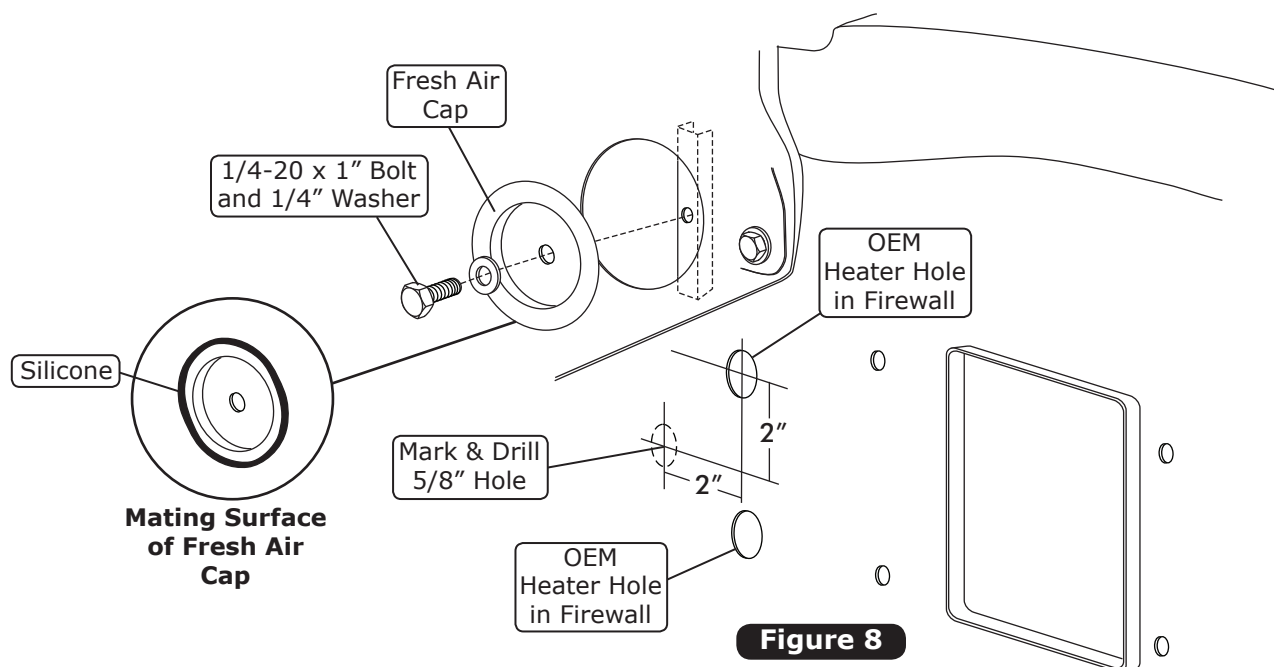
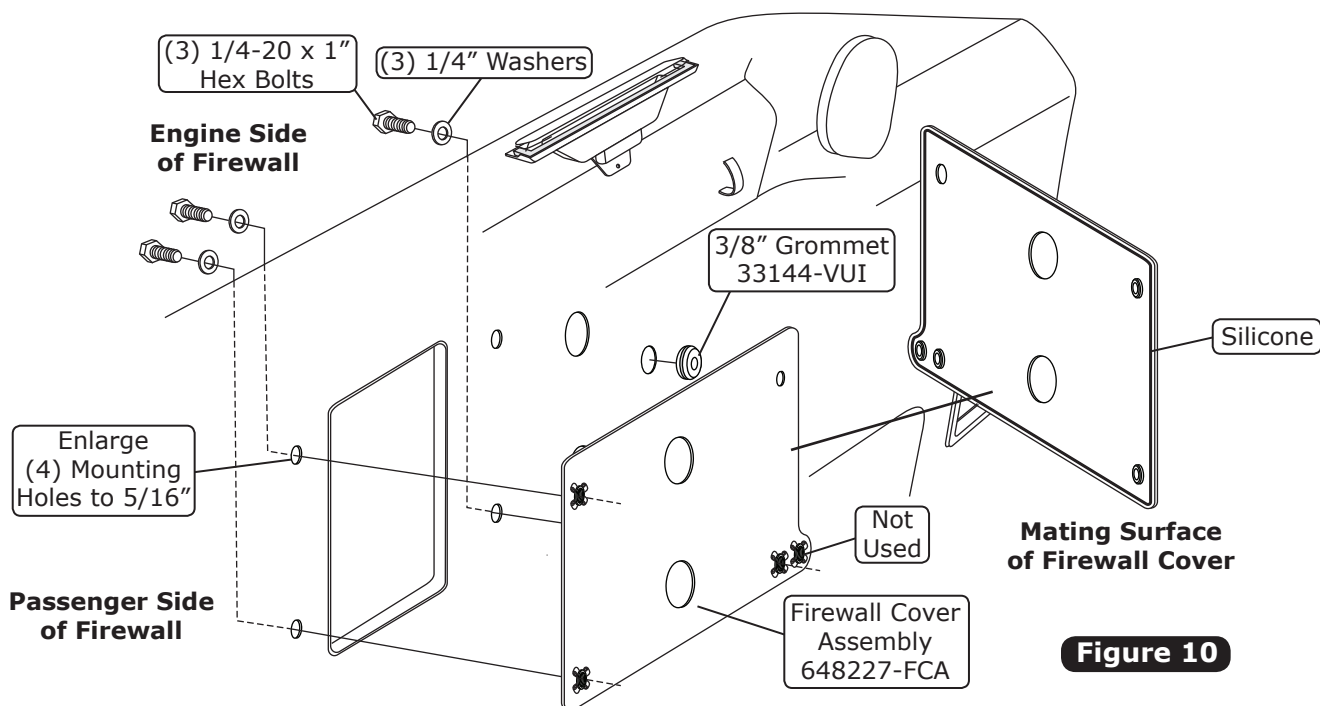

Figure 8
Figure 10
1. Apply a 1/4" bead of silicone around the mating surface of the fresh air cap as shown in Figure 8, below.
2. Attach the fresh air cap to the firewall using a 1/4-20 x 1" bolt and a 1/4" washer as shown in Figure 8, below.
3. Drill a 5/8" hole into the firewall using the measurements shown in Figure 8, below. Install a 3/8" grommet into the hole as shown in Figure 10, Page 10.
1. Enlarge the (4) mounting holes on the firewall to 5/16" (See Figure 10, below).
2. Apply a 1/4" bead of silicone around the mating surface of the firewall cover as shown in Figure 10, below.
3. From the passenger compartment, install the firewall cover onto the firewall. From the engine compartment, secure the firewall cover to the firewall using (3) 1/4-20 x 1" hex bolts and (3) 1/4" washers as shown in Figure 10, below.